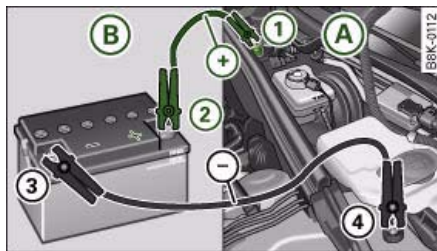

Fig. 249 Jump-starting with the battery of another vehicle: A - Discharged battery, B - Boosting battery
- 1. Connect one end of the lead to the **jump-start terminal** ⇒ fig. 249 ① (terminal under red cap = "positive") of the vehicle with the flat battery ④.
- 2. Connect the other end of the positive lead to the positive terminal ② of the boosting battery ⑤.